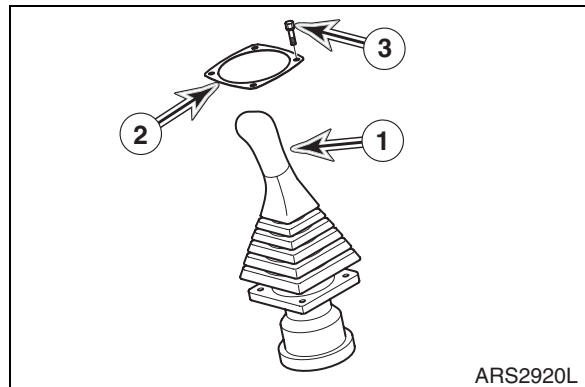

Figure 41
6. Connect hoses as tagged during removal to remote control valve L.H. (1, Figure 41).
7. Position remote control valve L.H. (1, Figure 41) on control stand and install four bolts and washers (3), and cover (2).